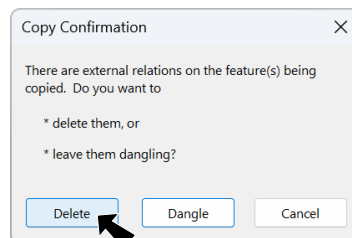

Fig. 13
Step 3. In the Copy Conformation dialog box click **Delete**, **Fig. 13**.